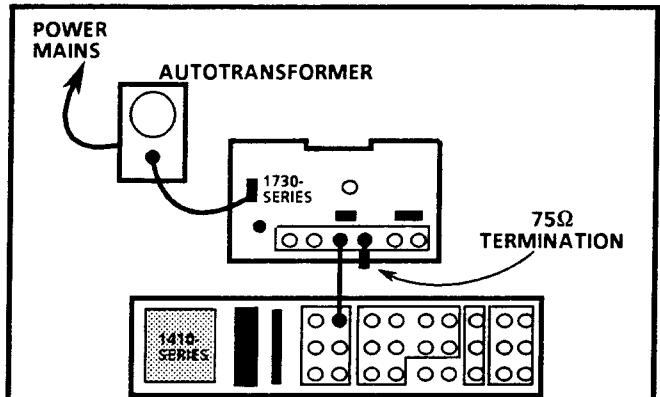

Fig. 5-3. Initial equipment hook-up for the Performance Check Procedure.
- c. Connect a composite color bar signal with 100% peak white bar and 75% amplitude color bars to the CH-B INPUT and terminate the opposite side of the loop-through with a  $75\Omega$  termination. See Fig. 5-3.